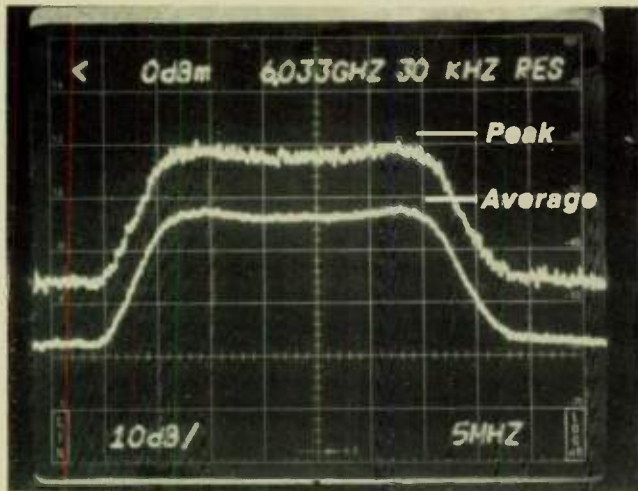

Fig. 13 6 GHz digital radio signal showing peak and average levels.
**Signal Averaging:** The noise-like behavior of the digital radio signal makes it necessary to average the display signal. Figures 13 and 14 show averaged and peak displays for 6 and 11 GHz signals. The difference in display level between peak and average is about 10 dB, the same as for ordinary random noise. Signal averaging is accomplished by actuating the video filter, use of digital averaging, or both.